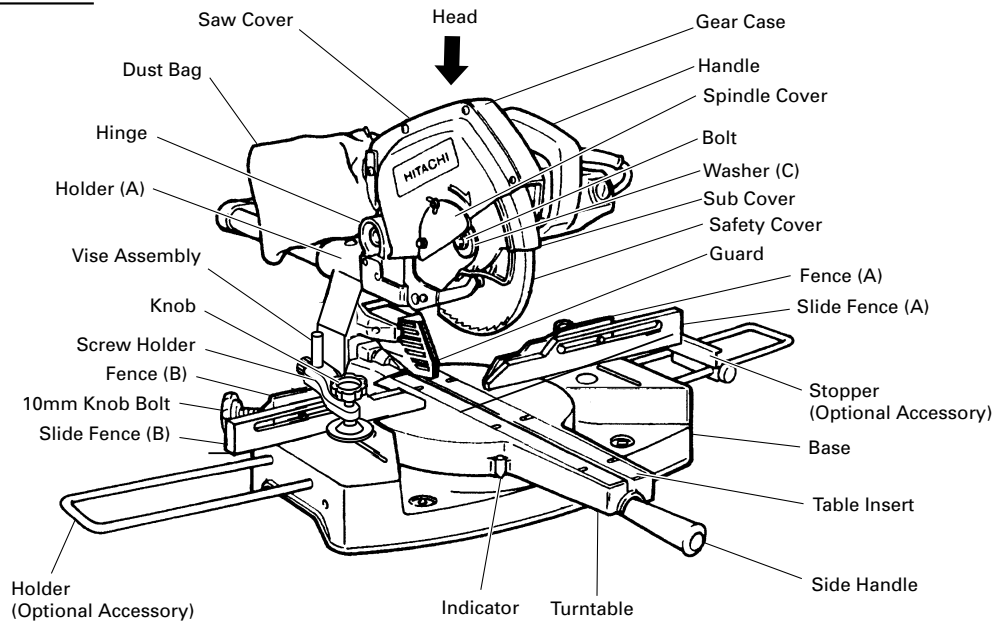
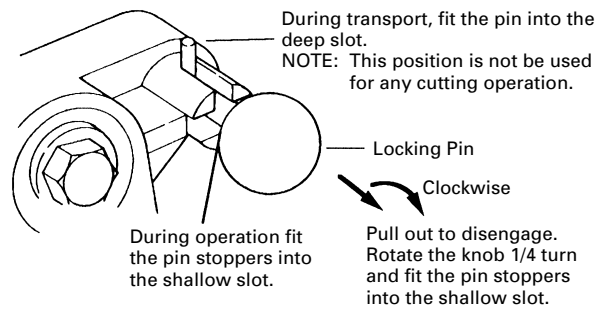

Fig. 1
Fig. 6-b
- ① Extension Holder and Stopper (Fig. 1) (Code No. 998866)
- ② Guard Assembly (A) (Adjustable) (Code No. 998984)
- ③ Saw blade 8-1/2" (216mm) TCT Saw blade (Total teeth: 36) (Code No. 998860)
- ④ Saw blade 8-1/2" (216mm) TCT Saw blade (Total teeth:60) (Code No.998862)
- ⑤ Saw blade 8-1/2" (216mm) TCT Saw Blade for aluminum (Total teeth: 60) (Code No.998864)
When the power tool is prepared for shipping, its main parts are secured by a locking pin. Move the handle (see Fig. 1) slightly so that the locking pin can be disengaged and adjusted as indicated in Fig. 6-b.
NOTE: Lowering the handle (see Fig. 1) slightly will enable you to disengage the locking pin more easily and safely.
Attach the dust bag, holder, stopper and vise assembly, slide fence (A) and slide fence (B) as indicated in Fig. 1.